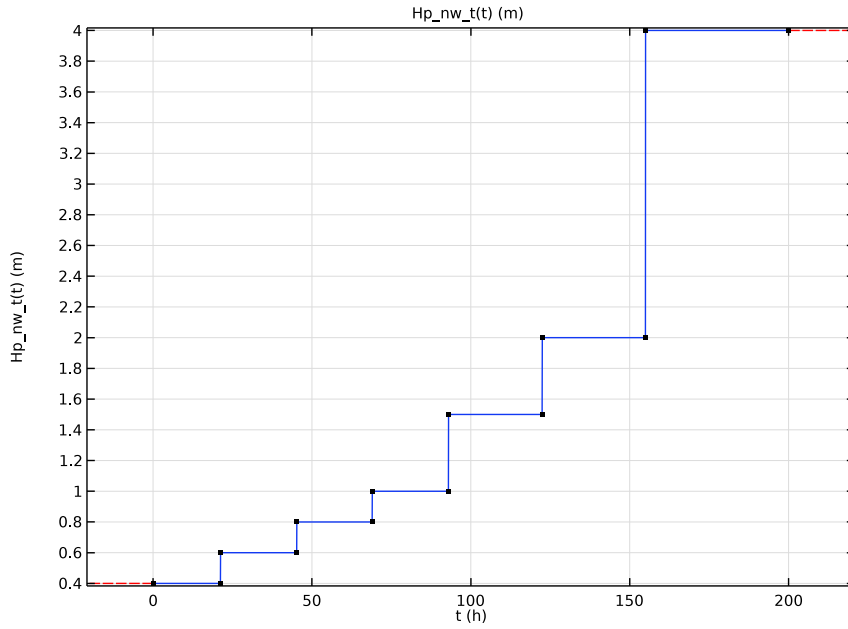

Figure 2: Interpolation function used for $H_{p_nw_t}(t)$.
Pressure head at the air inlet increments in time according to the table below, see Figure 2.
- 11 Click  **Plot**, and compare with Figure 2